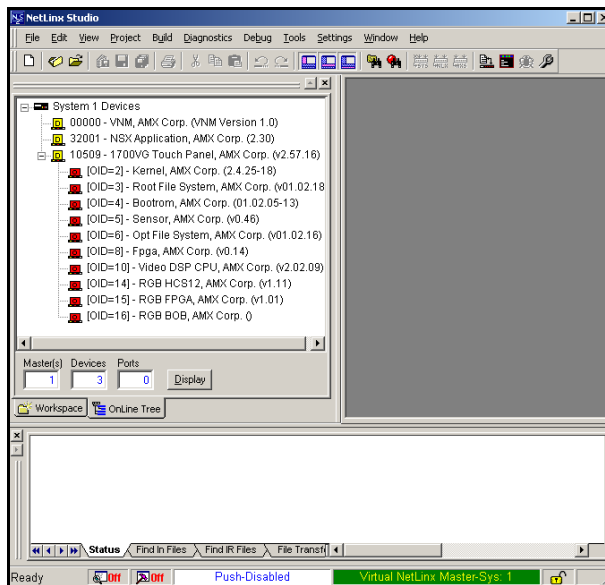

FIG. 75 Using USB for Virtual Master communication
4. Right-click on the System entry (**A** in FIG. 75) and select **Refresh System** to re-populate the list. This causes a refresh of all project systems, establishes a new connection to the Virtual Master, and populates the System list with devices on your particular system.